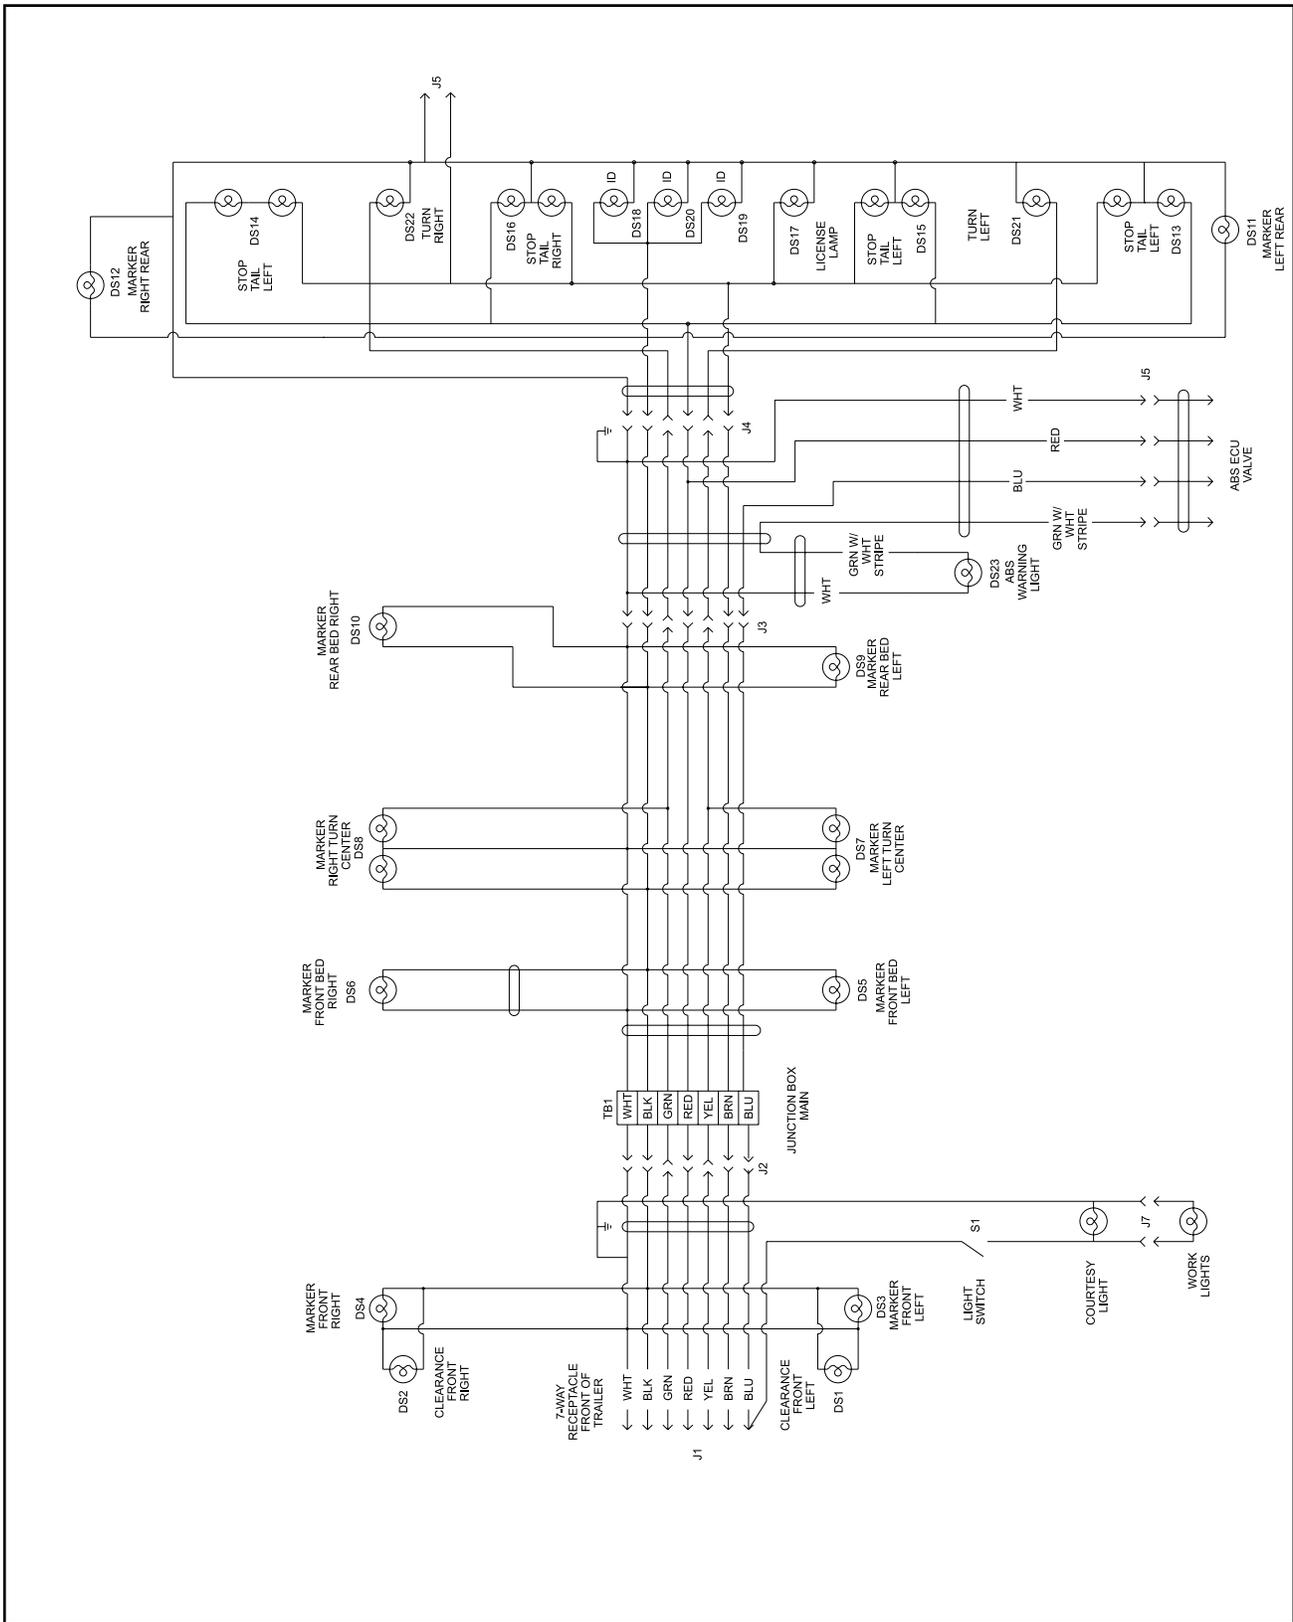

Figure 4-2 360A Wiring Diagram
- 4-5.1 Maintenance of the electrical system consists of inspection and minor servicing. Any wire, connection or electrical component showing signs of corrosion, wear, breakage or unraveling must be repaired or replaced. (See **Figure 4-2** for electrical wiring diagram)